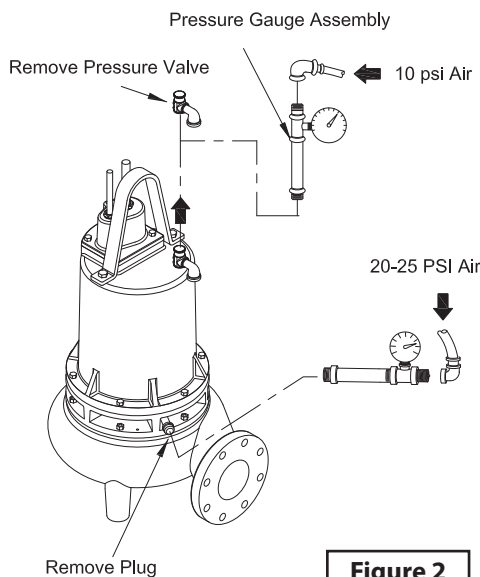

Figure 2
**Motor Housing** - Oil should be at normal level. Remove pressure valve (10) from motor housing (3). Apply pipe sealant to pressure gauge assembly and tighten into hole (See Figure 2). Pressurize motor housing to 10 P.S.I. Use soap solution around the sealed areas above the oil level and inspect joints for "air bubbles". If, after five minutes, the pressure is still holding constant, and no "bubbles" /oil seepage is observed, slowly bleed the pressure and remove the gauge assembly. Replace oil. Leak must be located and repaired if pressure does not hold.
**Seal Chamber** - Check that seal chamber is full of oil by removing pipe plug (18). Apply pipe sealant to pressure gauge assembly and tighten into hole in bearing bracket (16). Pressurize seal chamber to 20-25 PSI and check for leaks.
**Oil Replacement** - Set unit upright and refill with new cooling oil as per table. Fill to just above motor as an air space must remain in the top of the housing to compensate for oil expansion. Reassemble the o-ring (5) and conduit box (4) to motor housing (3). Apply thread locking compound to cap screws (6) and place into holes and torque to 15 ft/lbs.